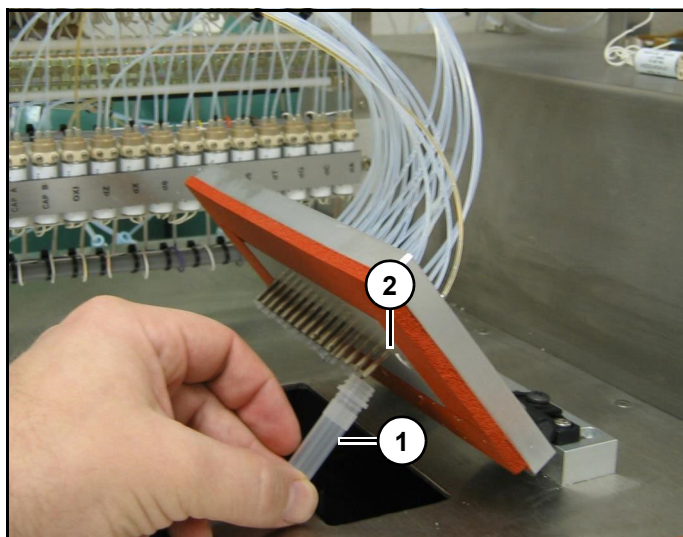

Figure 15
When performing valve calibration it is easier to unlock and raise Injection Head so that injection lines are more accessible (Figure 15).
- Place 2 ml tube (1) under correct injection pin (2) with lid open. (Figure 15)